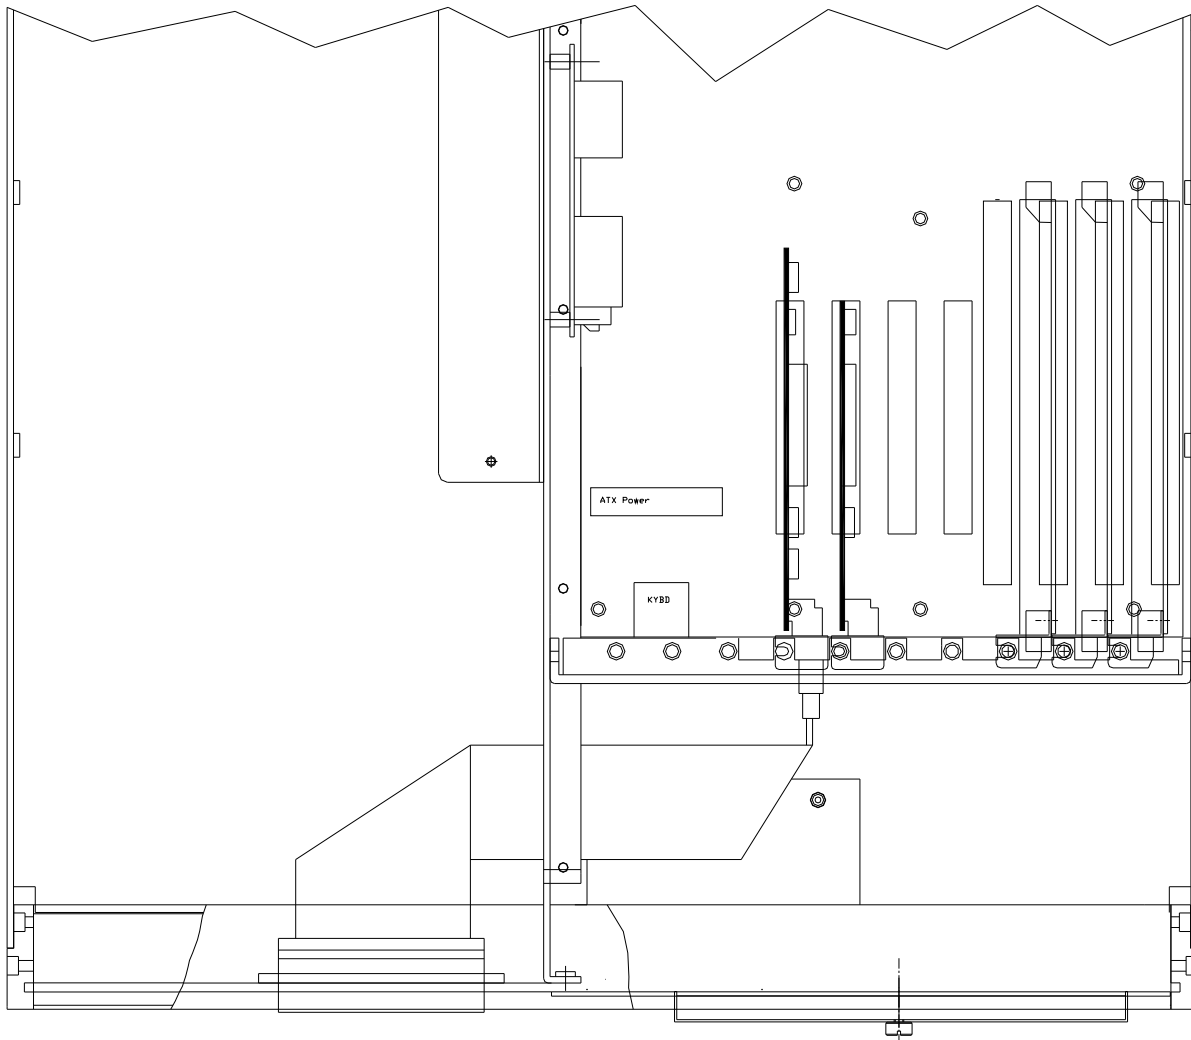

Figure 7-1 PCI-6533 Card Inserted into Acutrol3000 Chassis
- **PCI-6533 Card.** This card is installed into an empty PCI slot in the Acutrol3000 backplane and secured with a mounting screw. See Figure 7-1.